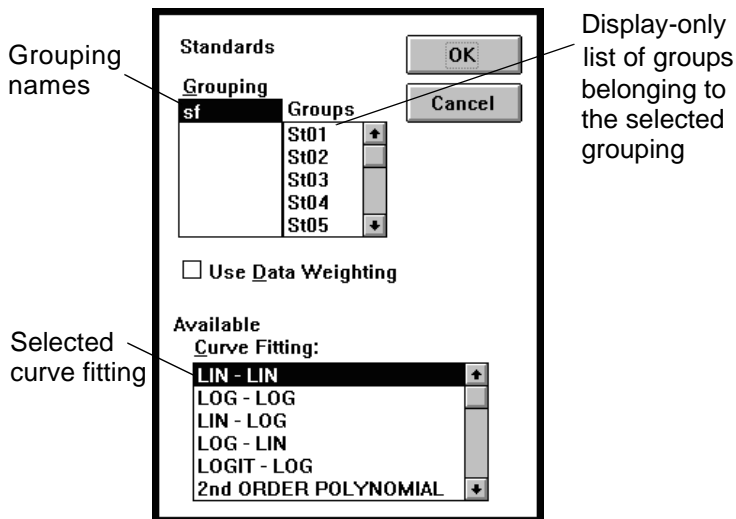

Figure 2-7 Standards Dialog Box
2. Click the **Standards** button. The Standards dialog box appears (Figure 2-7).